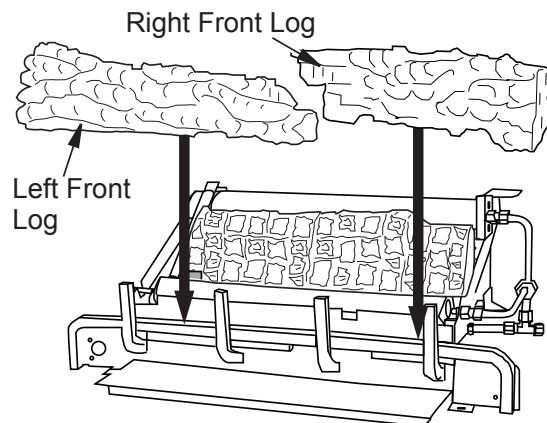

Figure 28 - Installing Left/Right Front Logs
2. Place front left and front right logs as shown in **Figure 28**.